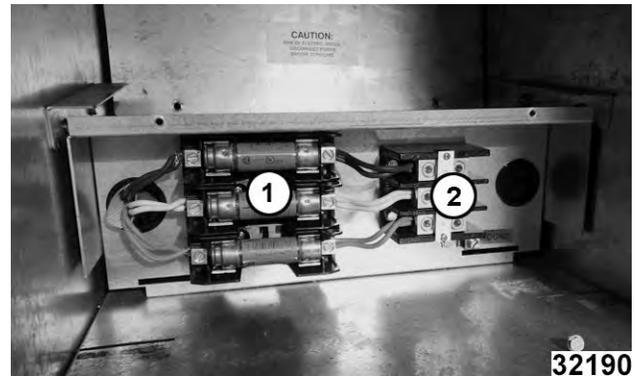

Fig. 15
- Fuses (1, Fig. 15) and power supply connection (2, Fig. 15) is located under the lower access panel.